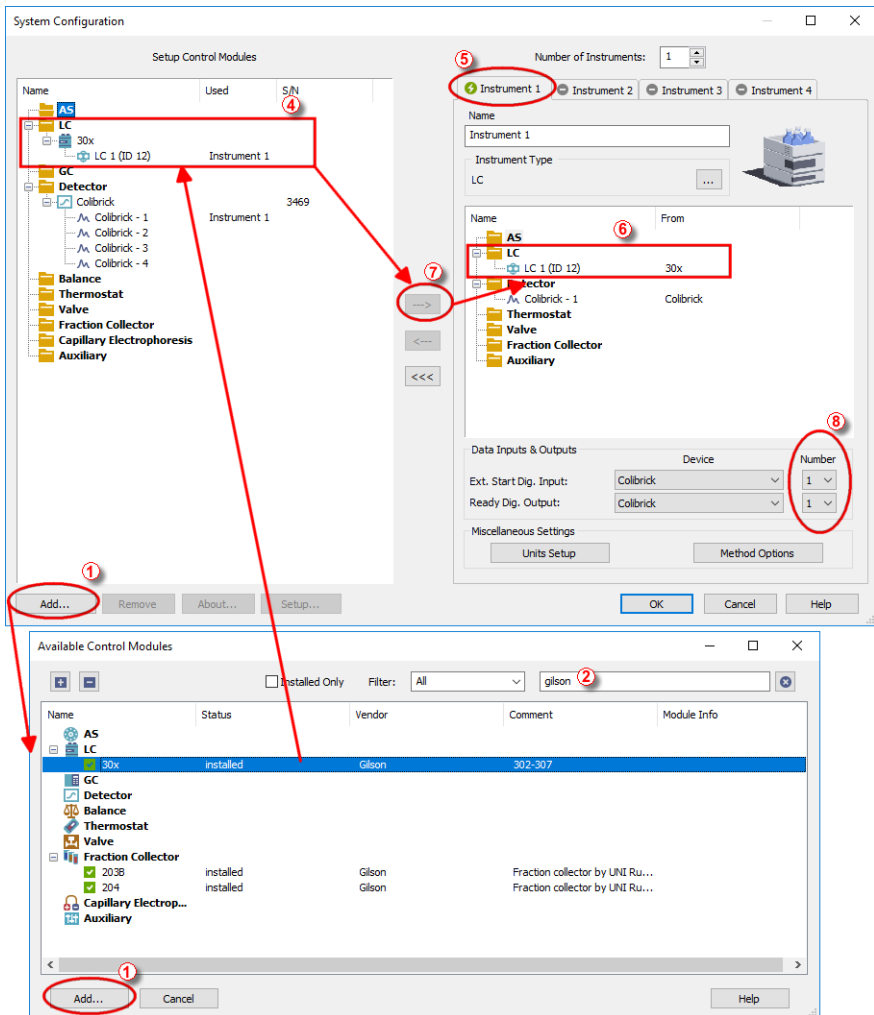

Fig 4: How to add Gilson 30X
- Press the **Add** button ① (see Fig 4 on pg 5.) to invoke the **Available Control Modules** dialog.
- You can specify the searching filter ② to simplify the finding of the driver.
- Select the **30x** pump and press the *Add* ③ button.